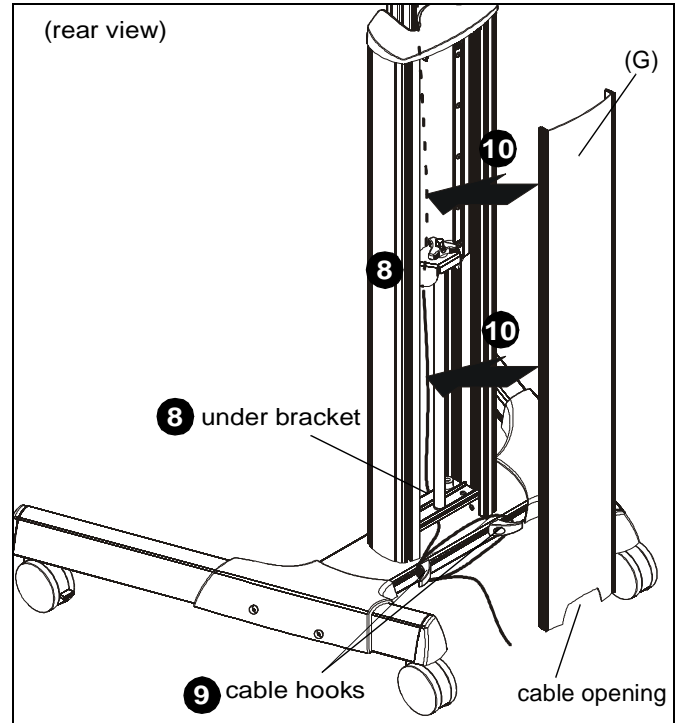

Figure 12
8. Route cables down column channel, tucking them behind height-adjustment carriage and underneath bracket holding height-adjustment shaft. (See Figure 12)
9. Wrap cables around cable hooks as desired. (See Figure 12)
10. Snap back cover (G) onto back of column assembly making sure cables fit through opening at bottom of cover. (See Figure 12)